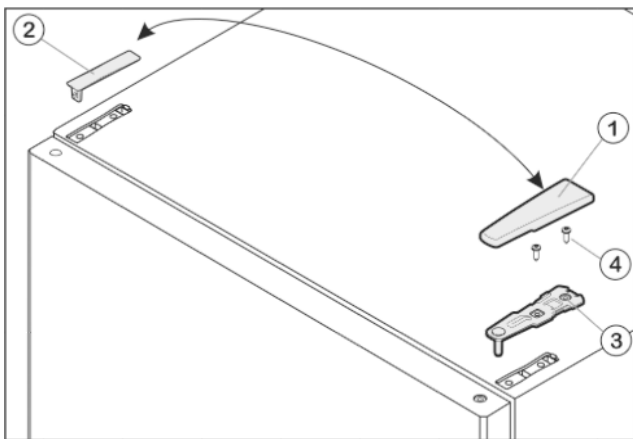

Fig. 6
- ▶ Pull off the cover Fig. 6 (1) forwards and upwards.
- ▶ Lift off the cover Fig. 6 (2).
- ▶ Unscrew the upper turn hinge Fig. 6 (3)(2x Torx® 25) Fig. 6 (4) and lift it off.
- ▶ Insert the upper turn hinge *Fig. 6 (3)* in the door on the new hinge side.
- ▶ Screw the upper turn hinge **firmly** into place (**with 4 Nm**)(2x Torx® 25) *Fig. 6 (4)*. Possibly make preliminary holes with a bradawl or use a cordless screwdriver.
- ▶ Apply the cover *Fig. 6 (1)* and cover *Fig. 6 (2)* to the opposite side from the outside and snap them into place.